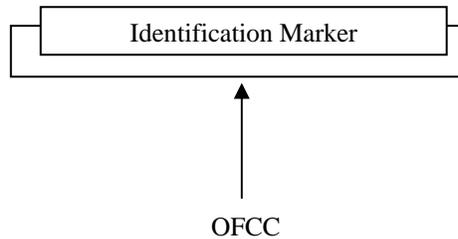

Figure 3 – Installing ID Marker
Step 2 – Install OFCC fiber identification markers on the OFCCs entering and exiting the splice tray (See Figure 3 below).